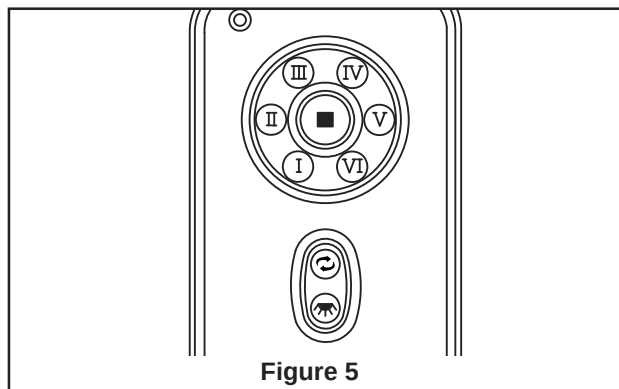

Figure 5
- ☐ 5. Secure the glass to light kit assembly by twisting in a clockwise direction. Do not over-tighten. (Figure 5)
☐ 5. The remote buttons instruct as below: (Figure 5)